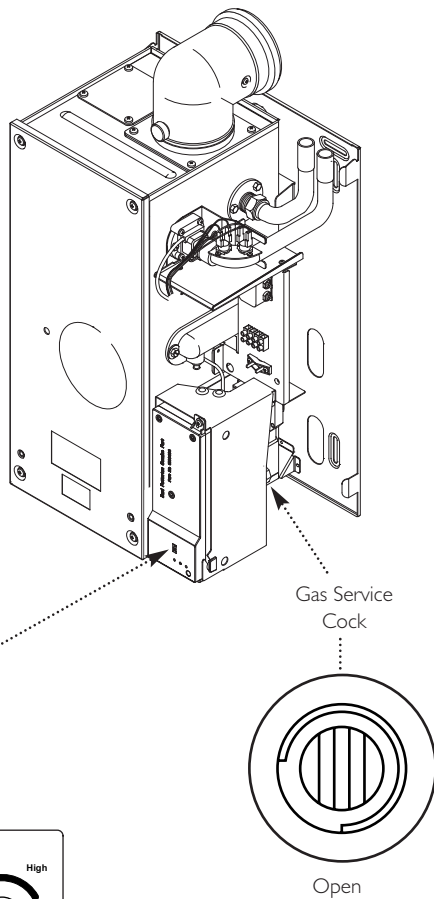

Fig. 34
6. Remove the top RH securing screw and hinge down the PCB housing to gain access to the gas service cock (see Fig. 32). Turn the gas service cock anticlockwise to the ON position and check for gas soundness up to the gas valve (Fig. 34).